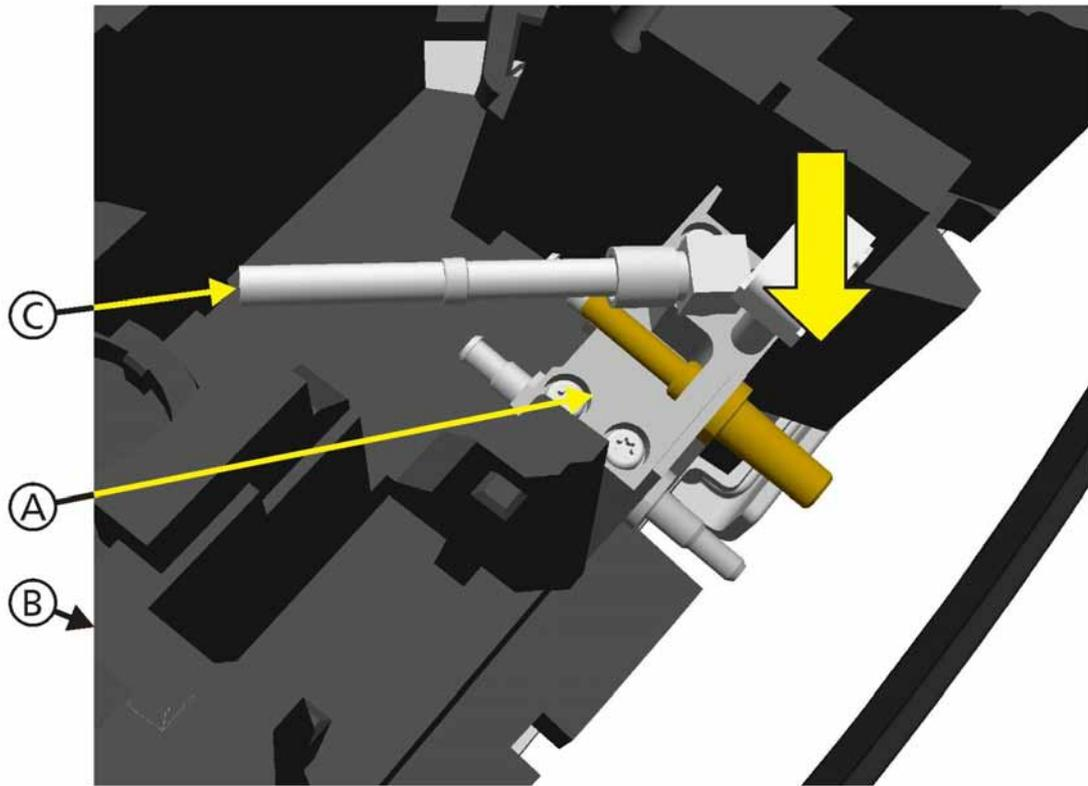

Figure 11-57. Front Panel Connector Block and Tubing Assembly, Step 1
- Figure 11-57, *Front Panel Connector Block and Tubing Assembly, Step 1*, on page 11-64